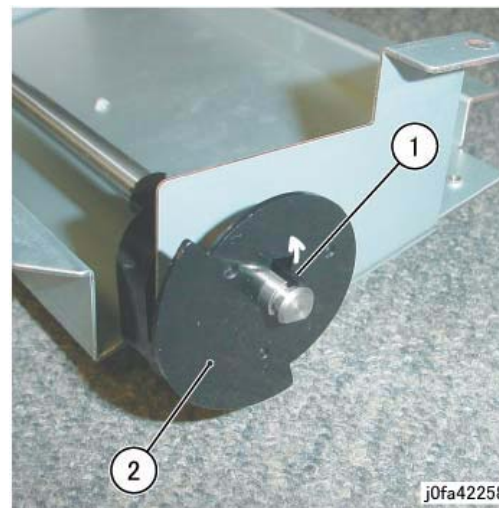

Figure 7 Removing the Actuator (j0fa42258)
11. Remove the Actuator. (Figure 7)